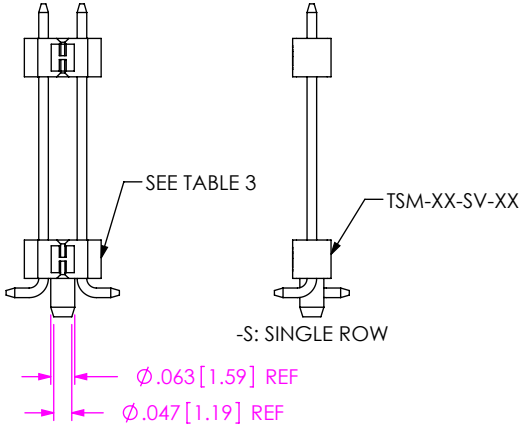

FIG 3
- A: ALIGNMENT PIN (SEE FIG 3, SHT 2)